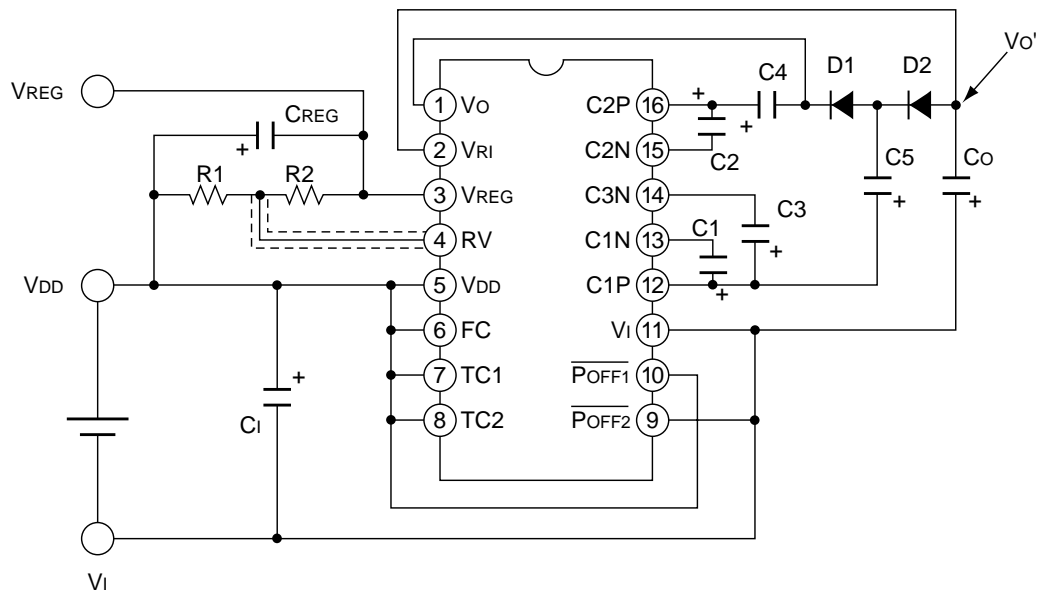
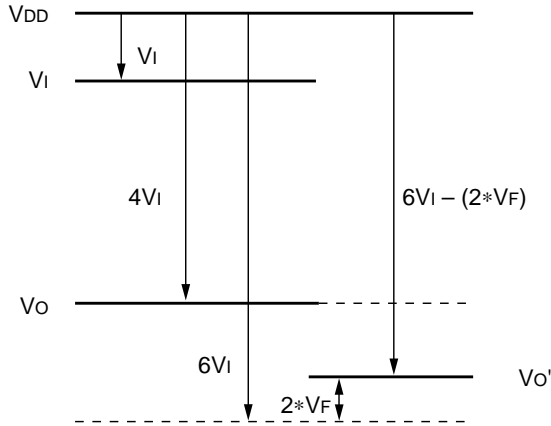

Figure 2.12 Wiring example for 6-time boosting using diodes
Figure 2.13 Potential relationship during 6-time boosting using diodes
Figure 2.12 gives a wiring example of 6-time booster and regulator that use two diodes. The wiring between  $V_O$  and  $V_{RI}$  must be minimal. Figure 2.13 provides the potential relationship.
- ◇ Setup conditions of Figure 2.12
- When diodes are used for voltage boosting, the characteristics of diodes directly affect on the voltage boosting characteristics. The forward voltage drop ( $V_F$ ) of diodes can reduce the booster output voltage. As the example of Figure 2.12 uses two diodes, the drop of “ $V_F$ ” voltage multiplied by two occurs as shown in Figure 2.13. The booster output voltage is expressed by equation (5).
To satisfy the input and output current ratings, limit the total current does not exceed the rated input current. The total current means the total boost time multiplied by the output load current. The example of Figure 2.12 has the maximum load current of 13.3 mA (= 80 mA divided by 6).
To satisfy the input and output voltage ratings, take care not to violate the electric potential relationship of higher time boosting using diodes. The example of Figure 2.12 must have the “ $V_I$ ” that can satisfy the input voltage conditions during 6-time boosting (see Table 2.3).